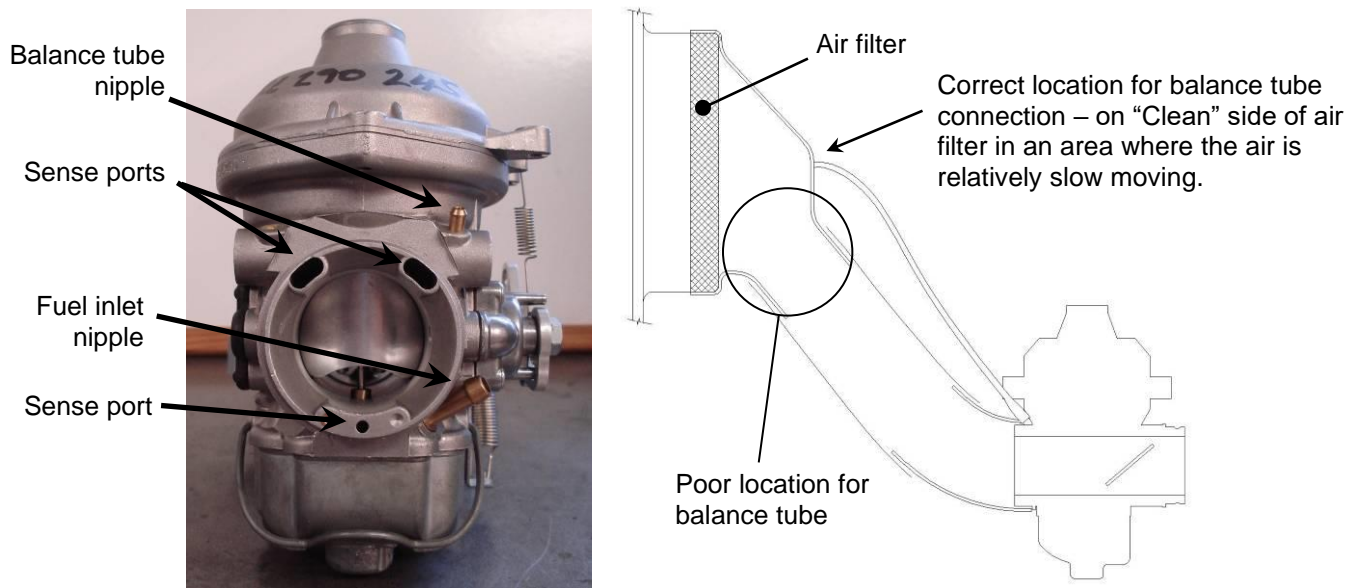

Figure 32. Carburettor Intake & Balance Tube Detail
- The Bing carburettor has a Balance tube (also known as a "sense tube") which connects the carburettor to the air box. The tube runs from a nipple on the carburettor to the airspace in the air box on the "clean" side of the air filter. This tube is part of a system or ports which "tells" the carburettor how hard the engine is working and controls how the carburettor varies the fuel / air mixture delivered to the engine. Tuning issues and poor running will result if this tube is blocked or connected to the wrong spot. Figure 32 shows the tube installation. Note that the balance tube must not be connected to the air box in a location where the air is moving fast – rapid flows produces pressure changes and boundary layer effects which mean the balance tube gives the carburettor "bad" information, which can cause poor mixture control and running issues.